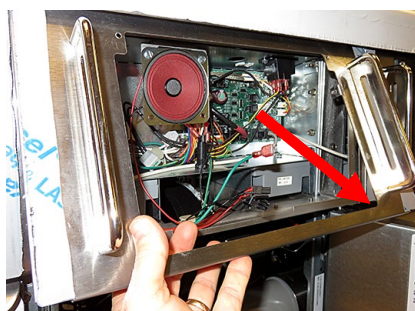

Figure 19
11. Remove the bezel by removing the two screws on the bottom of the bezel (see Figure 18) and tilting the bezel up from the bottom and lowering towards the front of the fryer (see Figure 19).